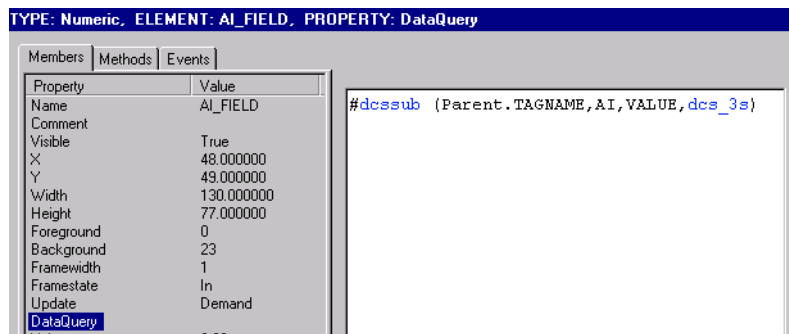

Figure 150. Specifying the DataQuery for AI_FIELD
3. Select the DataQuery property and enter the following script, Figure 150: